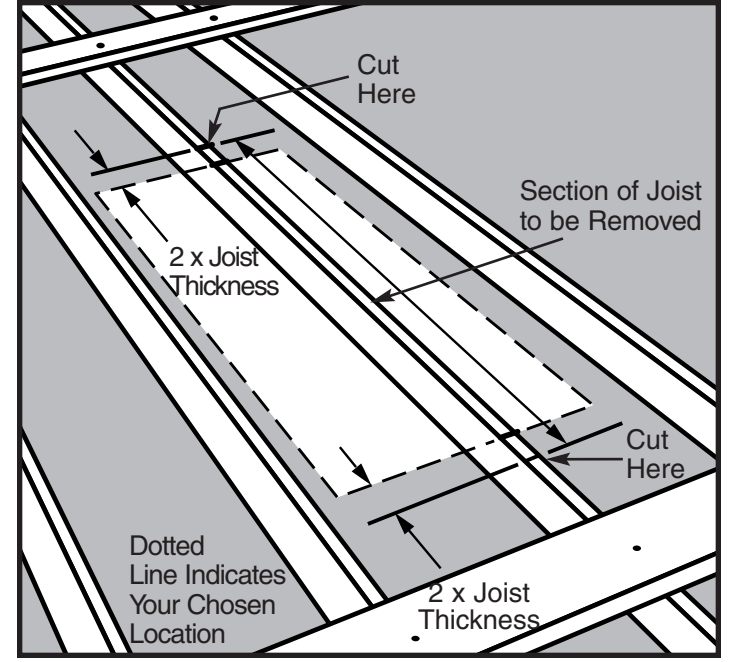
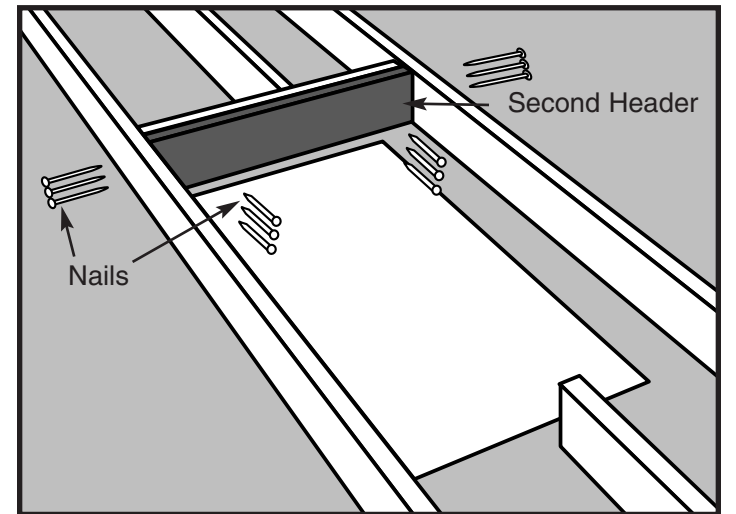

Figure 10
Figure 16
STEP 4. Next, determine where the joist(s) should be cut. Figure 10 shows where to mark the joist(s) that span your chosen location. Note that the joist(s) should be marked back from the edge of your location a distance of 2 times the joist thickness (usually three inches). This leaves room for two joist-sized headers to be placed against each end of the cut joist(s) (See Figure 16 on page 27).
- STEP 6.** Place a second header against the first header and nail it to the first header with 3 nails between each joist (See Figure 16).
- STEP 7.** Drive 3 nails through the joists into each end of the second header (See Figure 16).